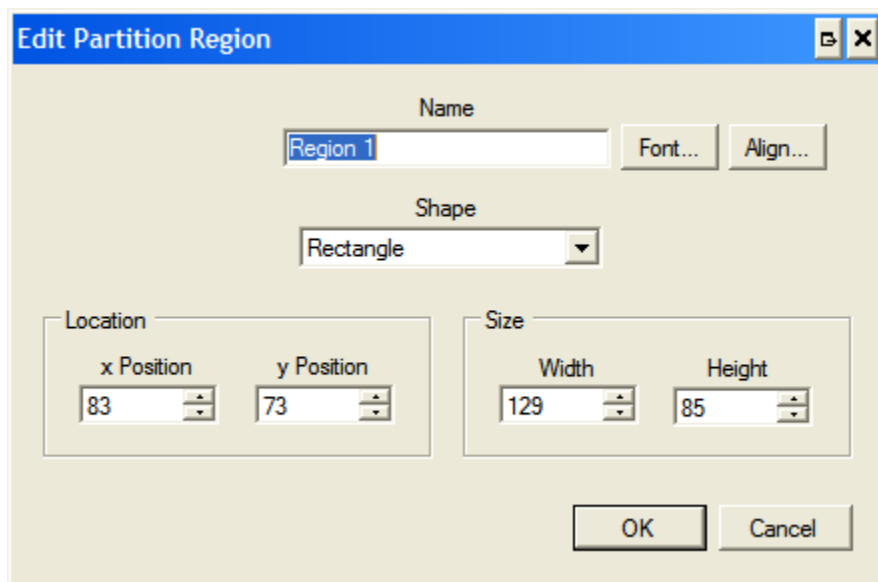

Figure 3.4 A Partition ROI Properties Window
3. An ROI properties window will appear to allow the user to modify domain properties. Like the other ROI property windows, this can be used to edit the shape, location, and size of the domain. It can also be used to rename the domain and change the font and alignment of the label inside the domain (**Figure 3.4**). Click **OK** when complete. A green ROI appears and all the ROI commands described in **Section 3.1** apply to the partition ROI.